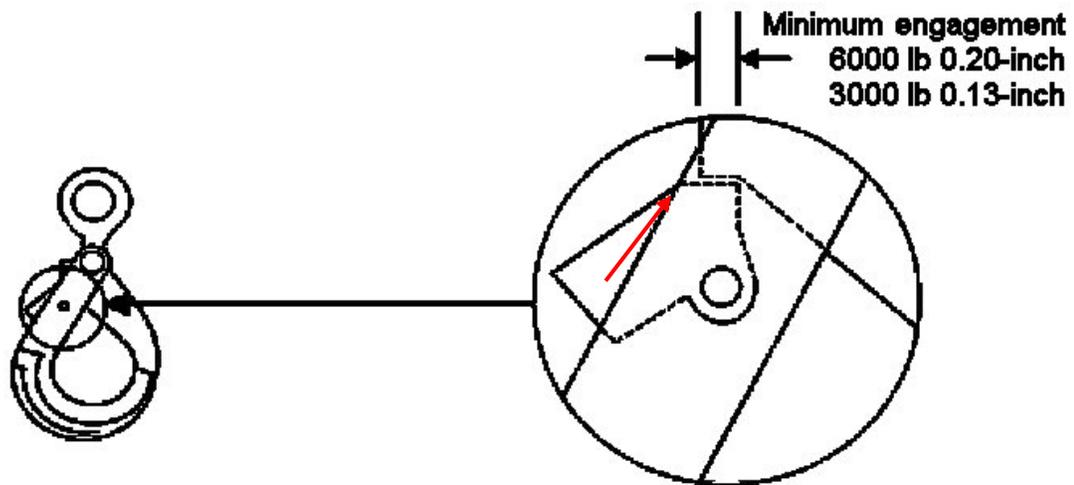

Figure 10. Examine Gate Lock Latch for rounding.
- Examine gate lock for rounded edge, see Figure 10.
- Ensure lock latch pin is secure and flush with latch, see Figure 10.